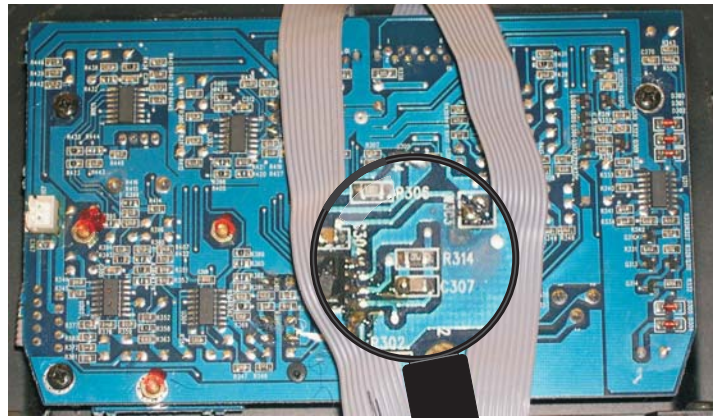

Figure 2. Locating R314 on the HPR input board.
3. **HPR 152i, HPR 152F, HPR 153i, or HPR 153F:** Locate and remove resistor R314 (see Figure 2). Replace it with a resistor of the appropriate value. Be careful to avoid damaging the nearby ribbon cables with the soldering iron.